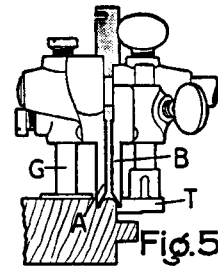

Fig. 5
Fig. 5—BEADING MATCHED BOARDS—Attach Beading Gauge (T) to left of Sliding Section (B). This provides a guide above the tongue. Gauge (G) regulates depth of cut. Fence (D) and the Spurs are not used.